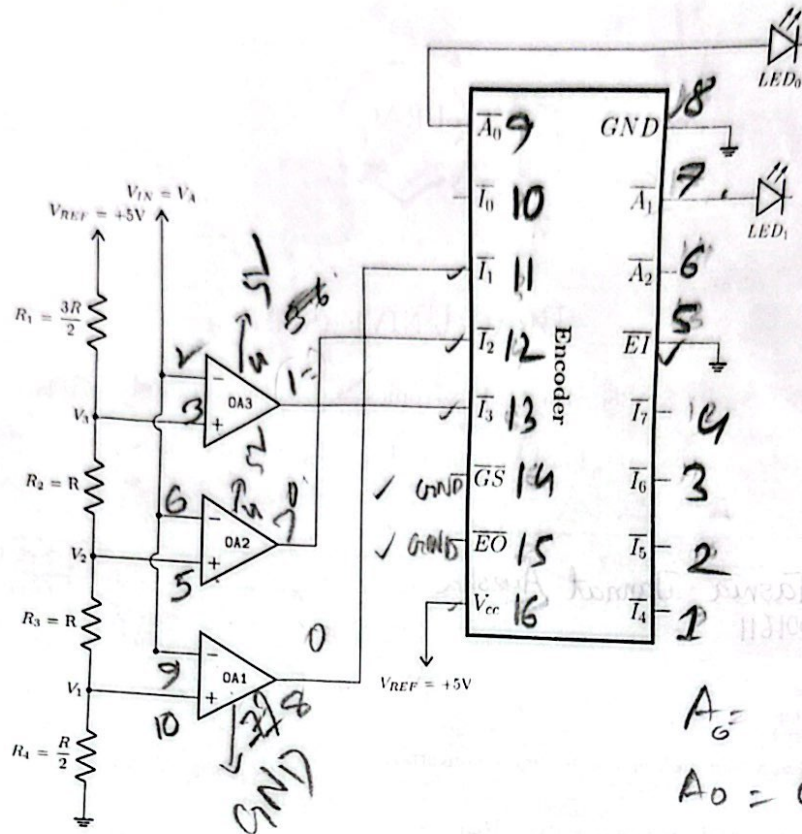

Figure 1: Flash Analog to Digital Converter (ADC)
Flash ADC is the fastest analog-to-digital converter. You can see the circuit diagram of a 2-bit flash ADC in figure 1. All the op-amps operate as comparator in this circuit. The analog input ( $V_A$ ) is applied to the 'non-inverting' input of the three op-amps.
1. Construct the circuit as shown in figure 1. Consider,  $R = 10 \text{ K}\Omega$ .